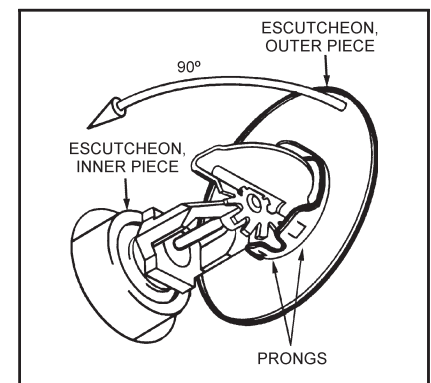

Figure 4
Step 4. After the wall construction is completed or the finish coat has been applied to the wall (as applicable), slide on the outer piece of the Escutcheon until it comes in contact with the wall (Ref Figure 4)